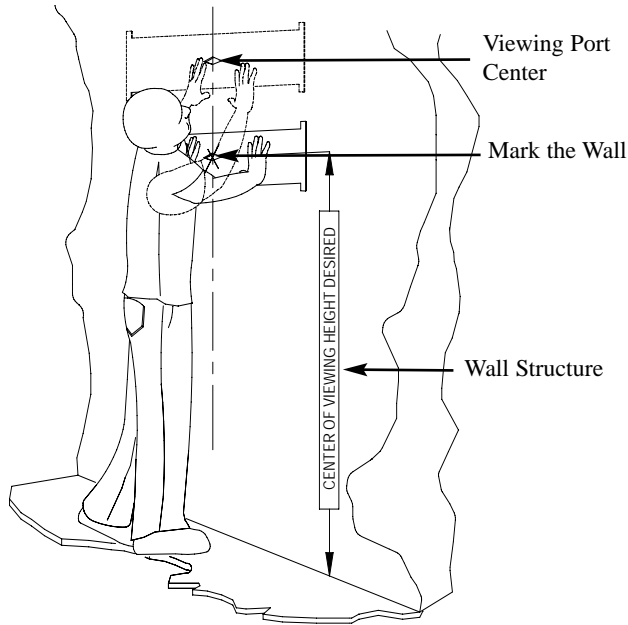

Figure 7
1. Align the center viewing port from the carton template to the wall. Match the center of viewing port to the center of viewing height desired (Figure 7).